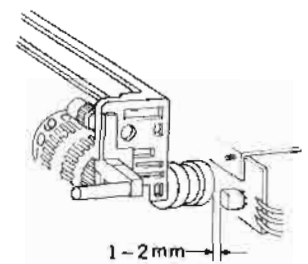

Fig. 14
7. When the cassette deck is re-installed, make the clearance 1 ~ 2 mm between the tape counter magnet and Hall IC as shown in Fig. 14.